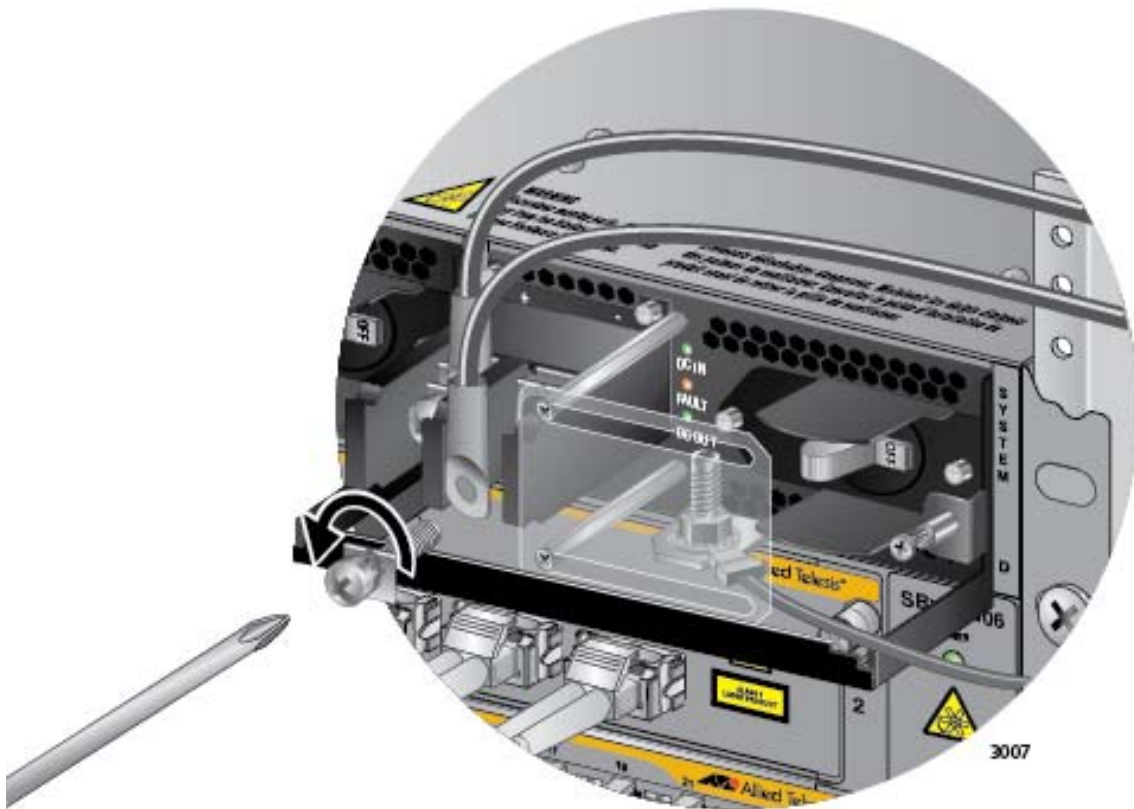

Figure 138. Removing the Negative Lead Wire
5. Use a #3 screwdriver to remove the negative (-) lead wire from the terminal block. The negative lead wire is on the right. Refer to Figure 138 on page 222.